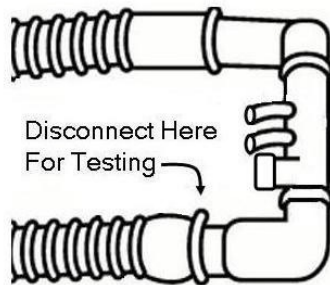

Figure 6-3: Disconnect Point for Calibration
3. Disconnect the Nasal CPAP device from the patient and disconnect the expiratory limb of the circuit at the patient wye. (Figure 6-3)